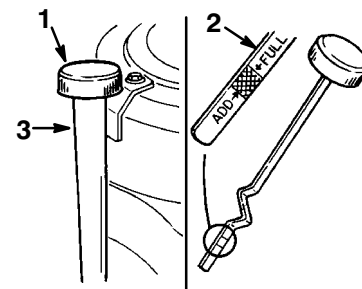

Figure 28
2. Clean around the oil dipstick (Fig. 28) so dirt cannot fall into the filler hole and damage the engine.
3. Unscrew the oil dipstick and wipe the metal end clean (Fig. 28).
4. Slide the oil dipstick fully into the filler tube; **do not** thread it onto the tube (Fig. 28).
5. Pull the dipstick out and look at the metal end (Fig. 28).
6. If oil level is low, slowly pour only enough oil into the filler tube to raise the level to the Full mark (Fig. 28).
7. Slowly pour approximately 80% of the specified amount of oil, refer to page 23, into the filler tube (Fig. 28).
9. Slowly add additional oil to bring the level to the Full mark on the dipstick (Fig. 28).